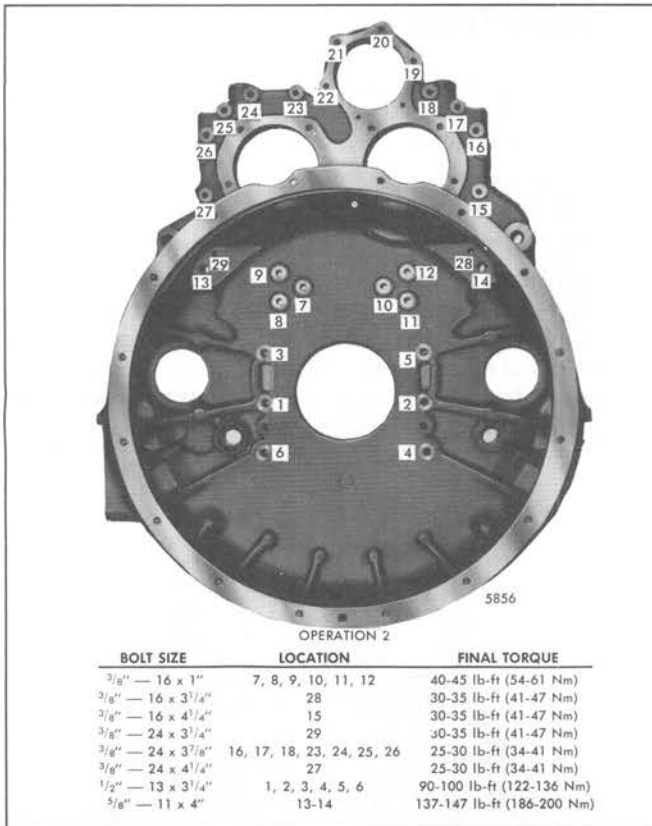

Fig. 9 – Flywheel Housing Bolt and Nut Final Tightening Sequence
10. Refer to Fig. 9 (Operation "2") for the final bolt and nut tightening sequence and, starting at number 1, tighten the flywheel housing bolts and nuts to the specified torque. Tighten the 3/8"-24 bolts and nuts to 25-30 lb-ft (34-41 N•m) torque, the 3/8"-16 self-locking idler gear hub and idler gear spacer hub bolts to 40-45 lb-ft (54-61 N•m) torque, the remaining 3/8"-16 bolts to 30-35 lb-ft (41-47 N•m) torque and the 1/2"-13 bolts to 90-100 lb-ft (122-136 N•m) torque. Tighten the two (2) 5/8"-11" outboard flywheel housing bolts on the left and right side to 137-147 lb-ft (186-200 N•m) torque. Be sure to rotate the crankshaft when tightening the idler gear hub bolts.